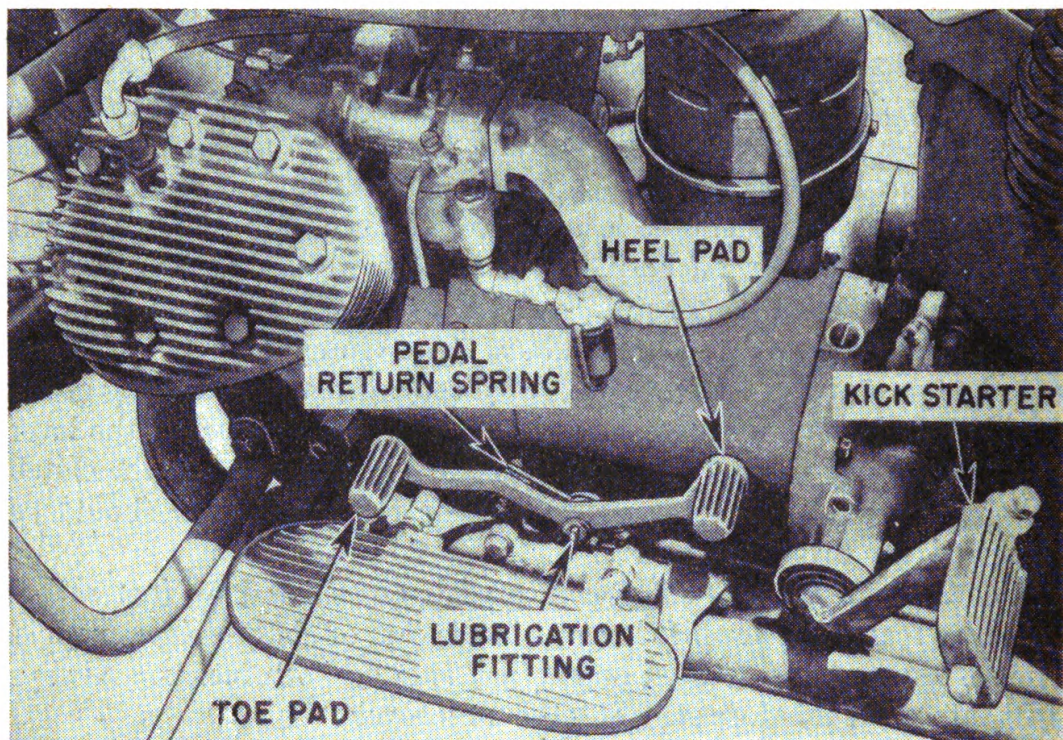
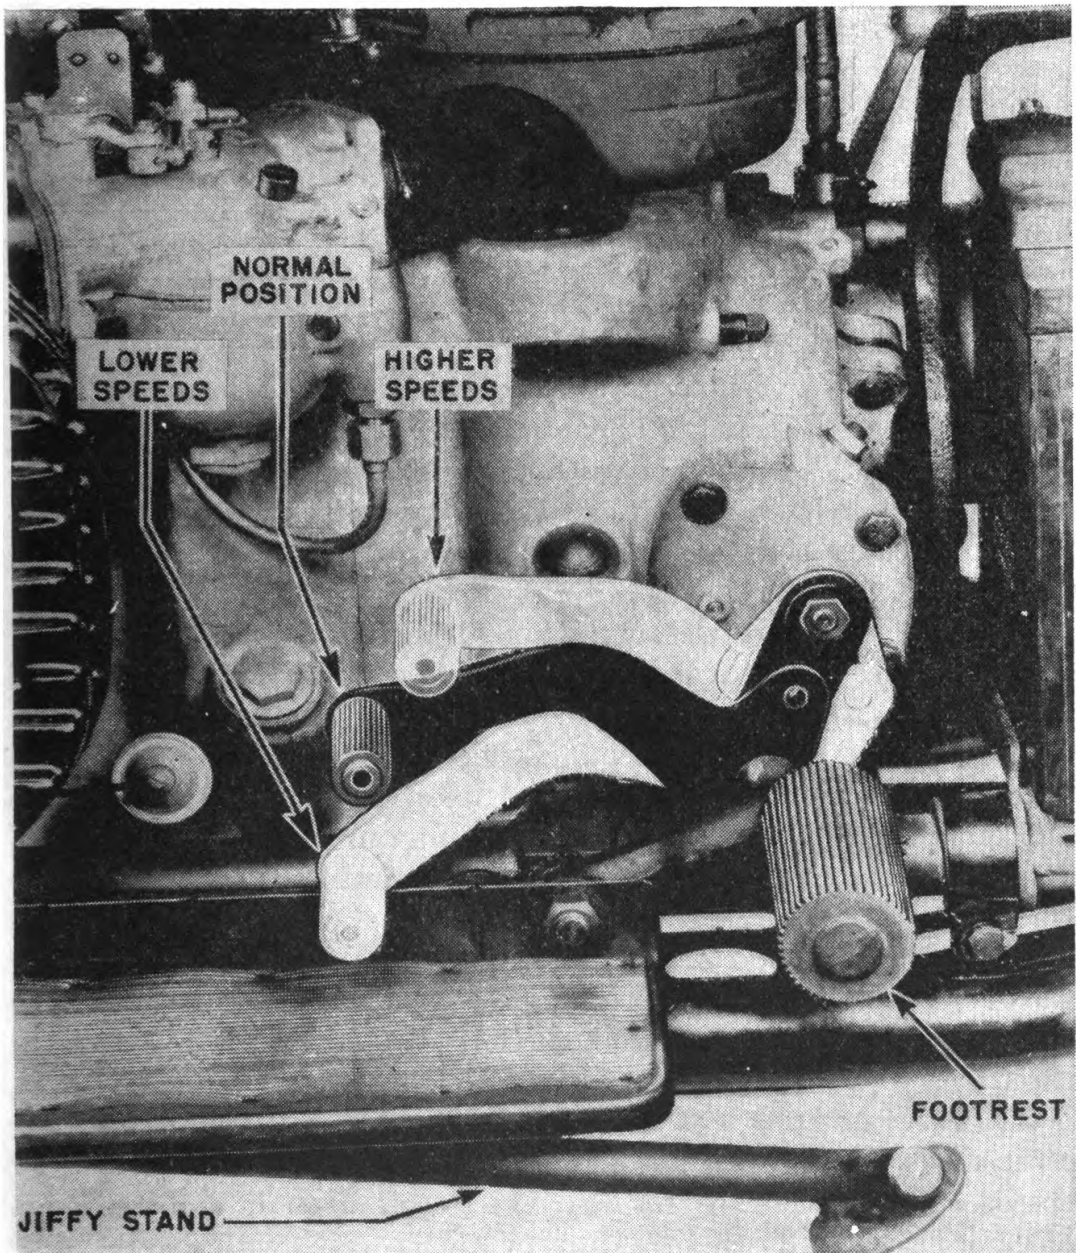

FIGURE 6.—Indian gear-shift pedal.
FIGURE 7.—Harley-Davidson gear-shift pedal.
*a.* The Indian shifter (fig. 6) has a toe and a heel pad. The heel pad is used when shifting into higher speeds; the toe pad when shifting into lower speeds. A spring returns the foot lever to its normal position when the foot weight is taken off either the heel or toe pad.
(1) Shifting into higher speeds is accomplished by depressing the heel pad as follows:
(2) Shifting from high to low is accomplished by reversing the procedure with the *toe* pad as follows:
b. The Harley-Davidson foot shifter (fig. 7) has consecutive gear positions like the Indian model, but is equipped with only a toe pad which is either lifted (pushed up) with the top of the foot for shifting to higher speeds, or depressed with the ball of the foot for shifting to lower speeds. Each time the foot pressure is released from the toe pad after shifting gears, a spring returns the pad to its normal position.
(1) Since the neutral position in the Harley-Davidson model is